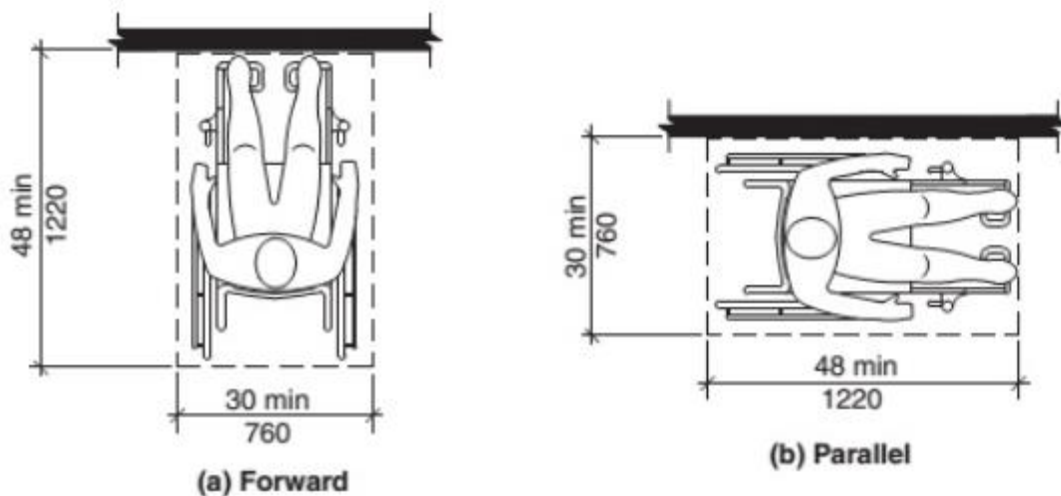

FIG. 305.5 POSITION OF CLEAR FLOOR SPACE
- Clear floor space shall be 48 inches minimum in length and 30 inches minimum in width, as shown in Figure 305.5: